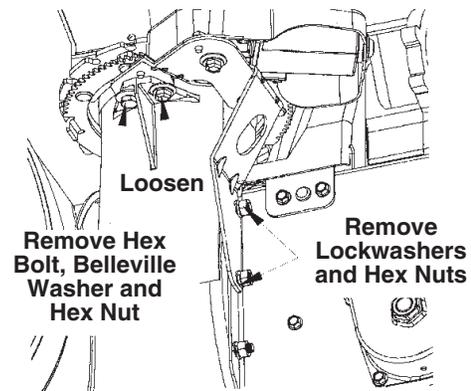

FIGURE 4. (Viewed from underside of chute)
1. Disconnect electric chute crank motor at the discharge chute by removing the hex bolt, Belleville washer and hex nut as shown in figure 4. Loosen the remaining hex bolt, Belleville washer and hex nut.
2. Remove the two lockwashers and hex nuts which attach the bracket to the frame. See figure 4.